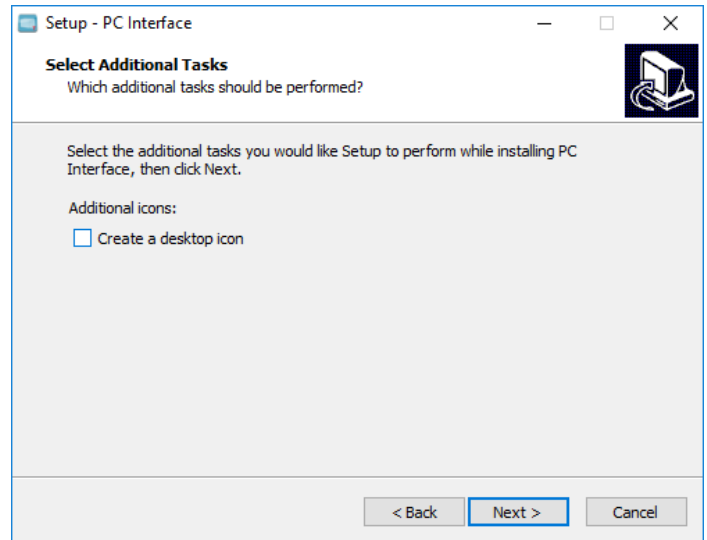

Figure 104. Additional Tasks Screen
- Check the check box of create a desktop icon is required. See **Figure 104**. Select Next.